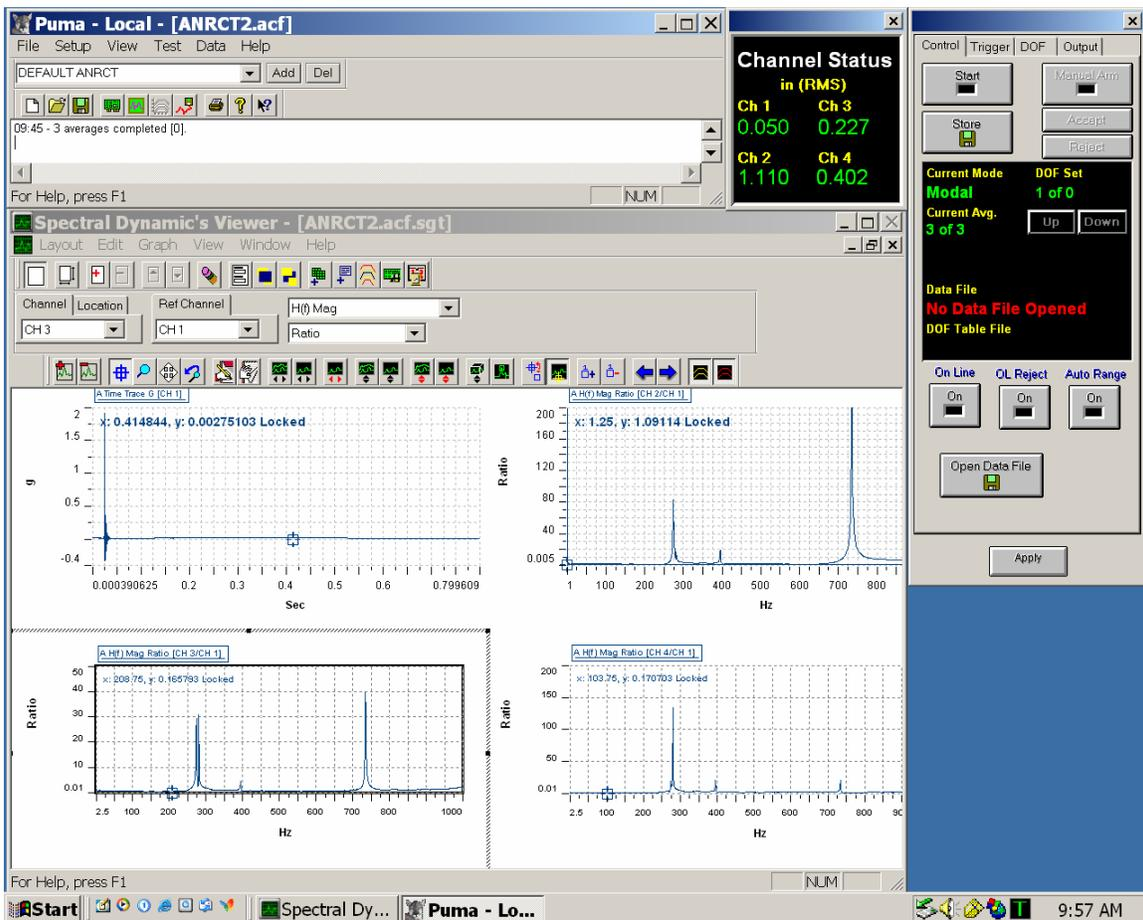

Figure 18
- 1) If the impact was of sufficient force to cause the system to Trigger, and if Manual Accept is set on the Trigger tab, the Accept/Reject buttons will turn from gray to black. Check the Channel Status and make sure that all the channels are Green and none of the channels are overloaded (Red). Also, look at Plot 1, and make sure that you did not get a double hit. At this point, you can either choose to Accept or Reject the average. Once, you've the clicked Accept button, repeat these steps until the averaging process is complete (current average is 3 of 3) as shown in Figure 18.